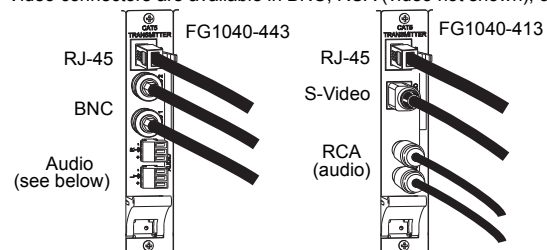

FIG. 5 Insert or attach video connectors as shown in sample boards
2. Insert, attach, or wire connectors to the TX and RX as shown in FIG. 5, 6, or 7.
3. Insert the RJ-45 connector into the Cat5 receptacle (see FIG. 5).
Audio connectors are either 3-position terminal block (balanced/unbalanced – FIG. 6; unbalanced – FIG. 7) or RCA (unbalanced – FIG. 5).